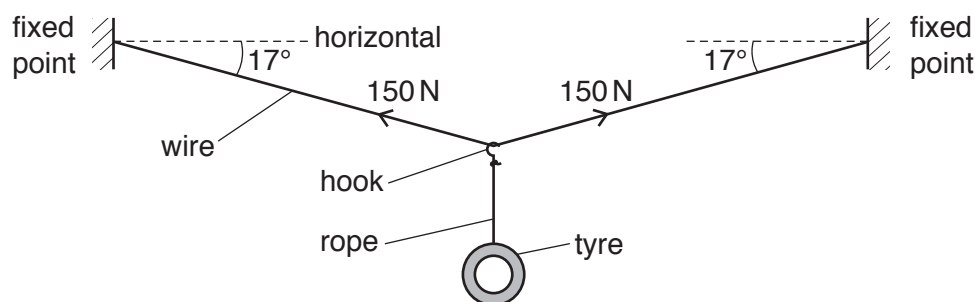

Fig. 1.1 (not to scale)
- (b) A wire hangs between two fixed points, as shown in Fig. 1.1.